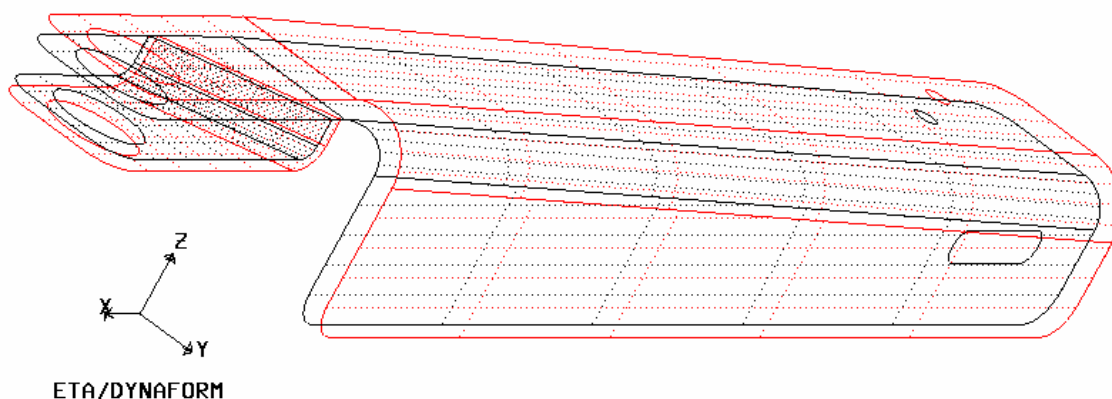

Figure 5.2.13 Grouped and Added Top Surfaces
4. The program groups the surfaces for the top faces. If the result is not perfect, Select **ADD TOP SURFACE** or **REMOVE TOP SURFACE** to adjust the result. In this instance, three surfaces are added to the top surface group. The result is seen in Figure 5.2.13.
6. This program groups the surfaces for the top face. If the result is not perfect, use ADD TOP SURFACE or REMOVE TOP SURFACE to adjust the result. In this case, three surfaces must be added to the top surface group. The result is shown in Figure 5.2.13